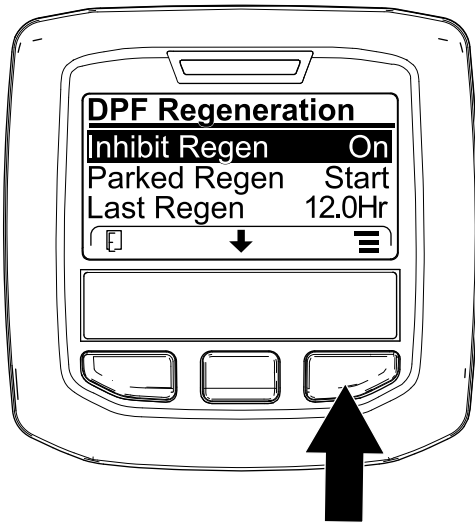
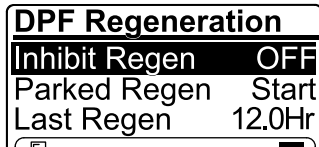

Figure 35
Figure 36
1. Access the DPF Regeneration menu, press the center button to scroll down to the INHIBIT REGEN option, and press the right button to select the Inhibit Regen entry (Figure 35).
- Press the right button to change the inhibit regeneration setting from On to Off (Figure 35) or from Off to On (Figure 36).